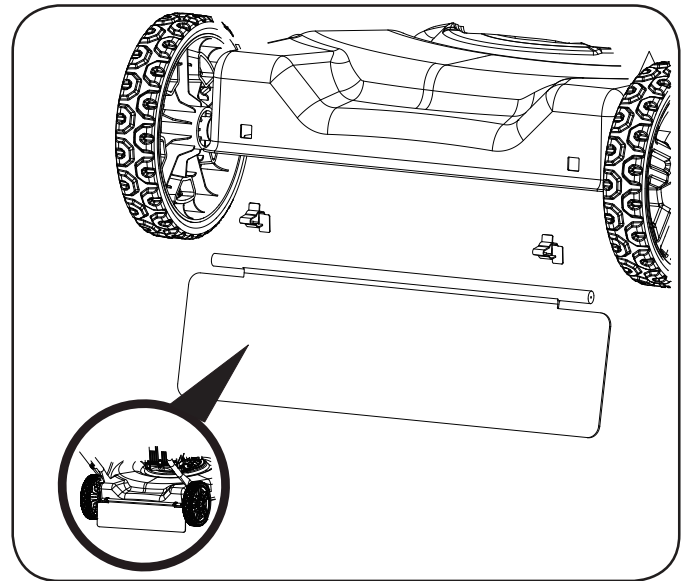

Figure 5
1. Insert shield holders into mounting holes of mower deck (Figure 5).